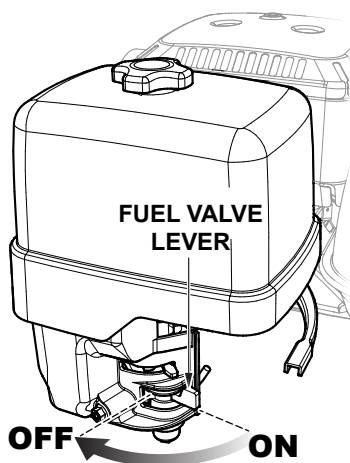

Figure 22. Fuel Valve Lever (OFF)
4. Place the fuel valve lever (Figure 22) to the OFF position.